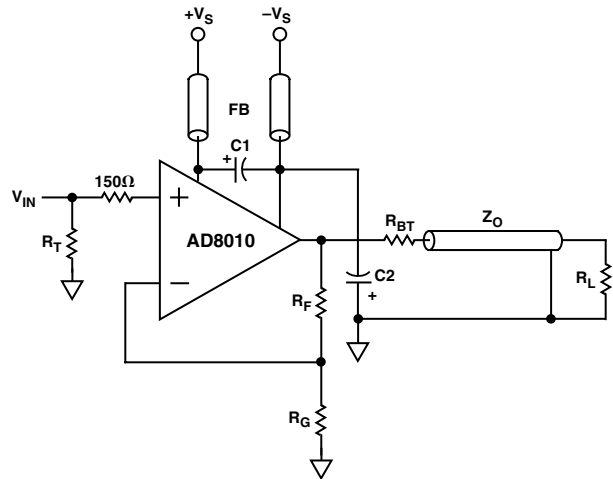

Figure 29. Standard Noninverting Closed-Loop Configuration with Recommended Bypassing Technique
To achieve these levels of performance special precautions with respect to supply bypassing are recommended (Figure 29). This configuration minimizes the contribution from high frequency supply rejection to differential gain and phase errors as well as reducing distortion due to harmonic energy in the power supplies.
The standard noninverting closed-loop configuration with the recommended power supply bypassing technique is shown in Figure 29. Ferrite beads (Amidon Associates, Torrance CA, Part Number 43101) are used to suppress high frequency power supply energy on the DUT supply lines at the DUT. C1 and C2 each represent the parallel combination of a $47 \mu\text{F}$ (16 V) tantalum electrolytic capacitor, a $10 \mu\text{F}$ (10 V) tantalum electrolytic capacitor and a $0.1 \mu\text{F}$ ceramic chip capacitor. Connect C1 from the $+V_S$ pin to the $-V_S$ pin. Connect C2 from the $-V_S$ pin to signal ground.
NOTE: Please see Figure 29 for Recommended Bypassing Technique.
- Bypassing per Figure 29.